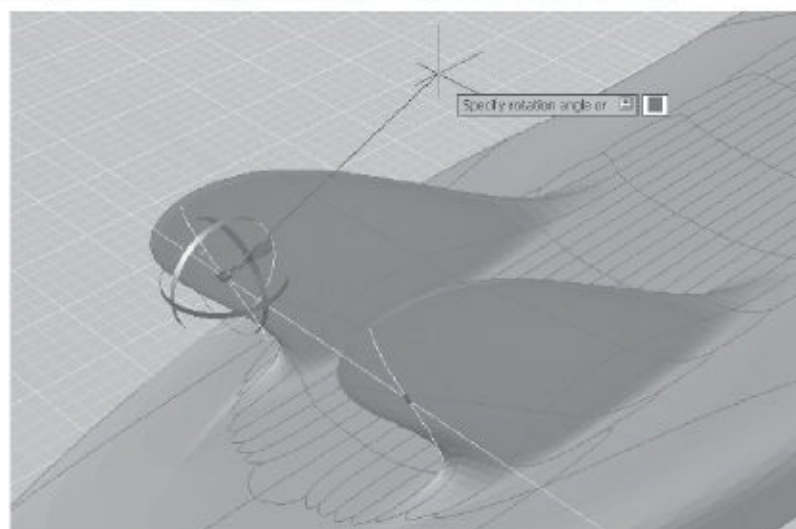

FIGURE 23.22 Click and drag the green circle on the Rotate gizmo.
2. In the Selection panel, select the Rotate Gizmo tool from the Gizmo flyout (see Figure 23.22).